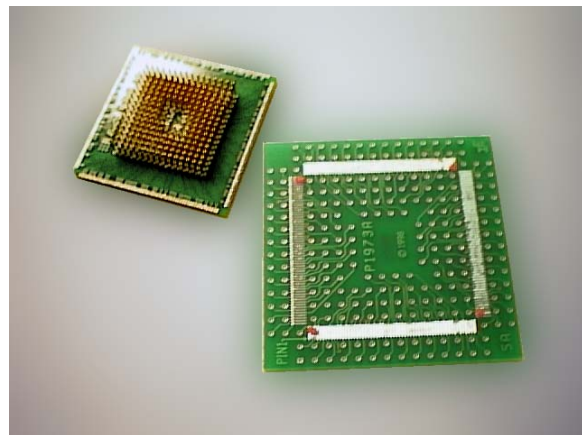

Figure 2: Placing Tac Flux
(1) Using a flux dispenser, place a small amount of Tac flux (water soluble or no clean) on the four corner pads of the target PCB as shown in Figure 2.
Figure 2 shows the Bottom Termination surface mount emulator foot and a clean target printed circuit board. The bottom side of the surface mount foot is covered by 0.005" thick kapton tape to provide insulation and clearance from the target PCB as recommended by IPC-A-610B, Section 10.2.1 chip components/bottom only termination standard.